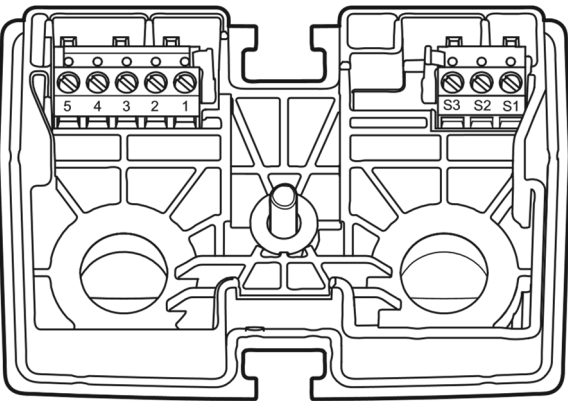
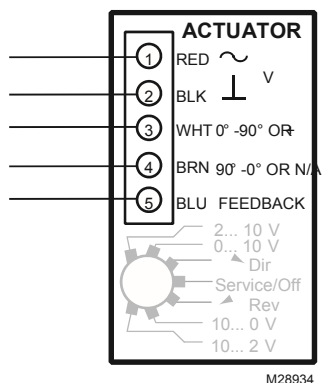

Fig. 9. Terminal block details.
Fig. 24. Cable wiring for floating and modulating (0/2-10 Vdc) control, MS7505W series.
6. Connect wires as appropriate to the terminal block(s). (See Fig. 9 and 11.)
See Fig. 9 through 23 for typical wiring details for actuators without cables (whips). See Fig. 24 through 26 for wiring actuators with cables (whips).
See Fig. 24 through 26 for wiring actuators with cables (whips). See Fig. 9 through 23 for typical wiring details for actuators without cables (whips).